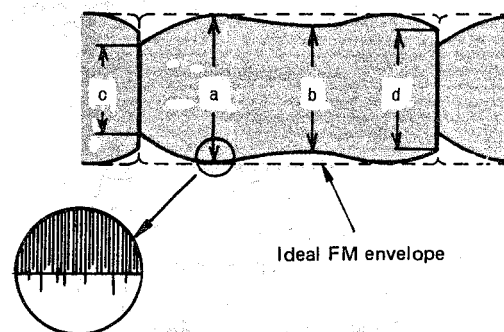

Fig. 2-58 FM waveform (max. output)
- 5) When the maximum video FM waveform, confirm the audio FM waveform (Fig. 2-58) obtained that: